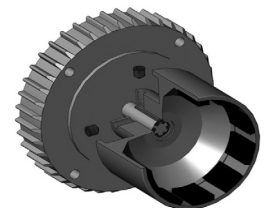

Figure 5
**NEMA Motors:** Install set screws (item 13B) into threaded holes on the side of the outer drive magnet assembly. Using a 3/16" Allen bit & torque wrench, tighten to 228 in-lbs (25.8 N-m). See figure 5.